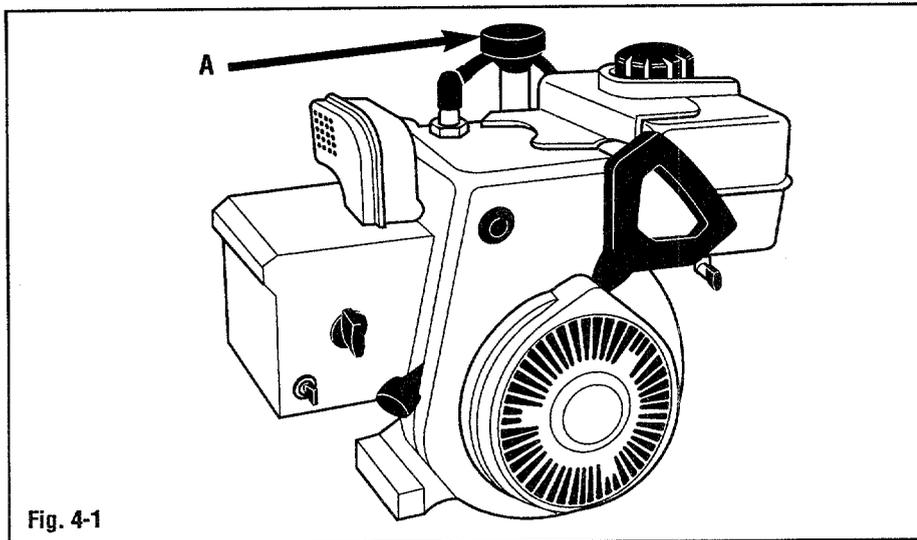

Fig. 4-1
- b. Remove the engine oil dipstick (A, Fig. 4-1).
- e. Remove the engine oil dipstick (A, Fig. 4-1) again.